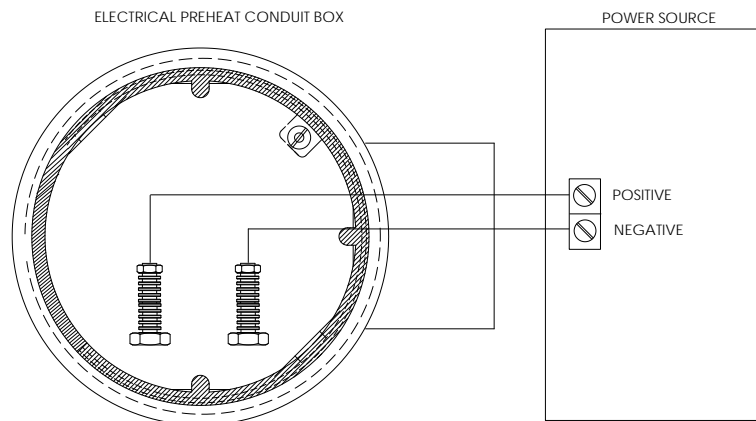

Figure 3-52 Electrical Pre-heater Wiring Instructions
- 22) Using the wiring instructions shown in Figure 3-52 and the manufacturer's instructions enclosed with heater, make external connections.
- 4) Using the wiring instructions shown in Figure 3-52 and the manufacturer's instructions enclosed with heater, make external connections.